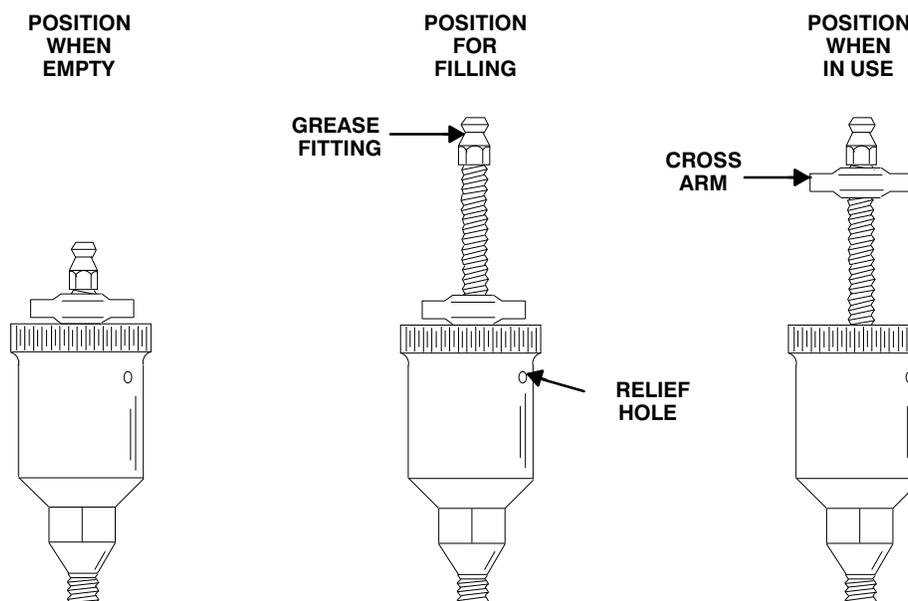

Figure 4. Automatic Lubricating Grease Cup
Fill the grease cup (8) through the grease fitting with No. 2 lithium base grease until grease escapes from the relief hole. Turn the grease cup arm counterclockwise until it is at the top of the stem; this will release the spring to apply grease to the seal (see Figure 4).